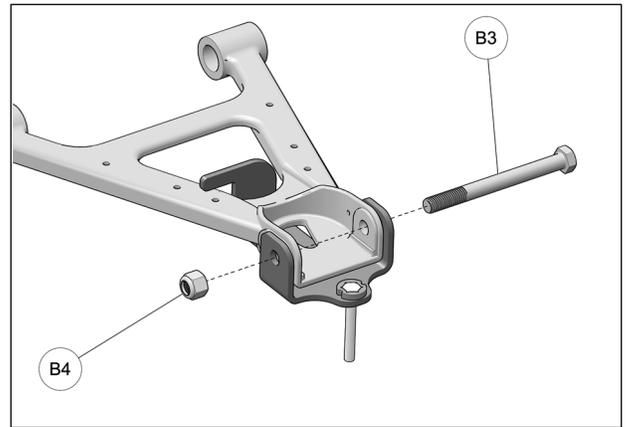

Fig. 8
- Insert the new 5/8-11 bolt (B3) in the anchor bracket, through the lower suspension arm and the wheel hub. Secure assembly using the new 5/8-11 nut (B4) provided. Tighten bolt to 108 N•m [80 lb•ft].. See Fig. 8